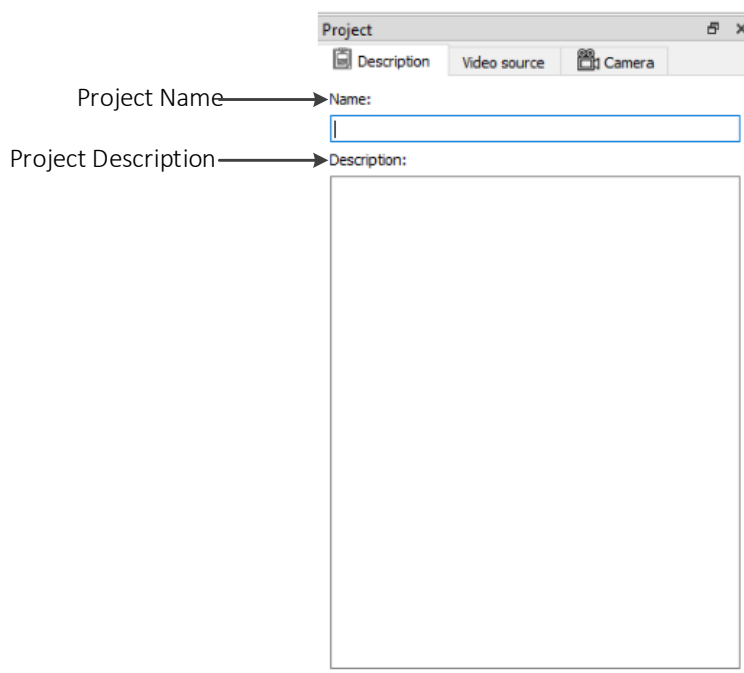

Figure 4 – Project description tab
1. The Description tab is used to specify the project name and description, as shown in Figure 4.